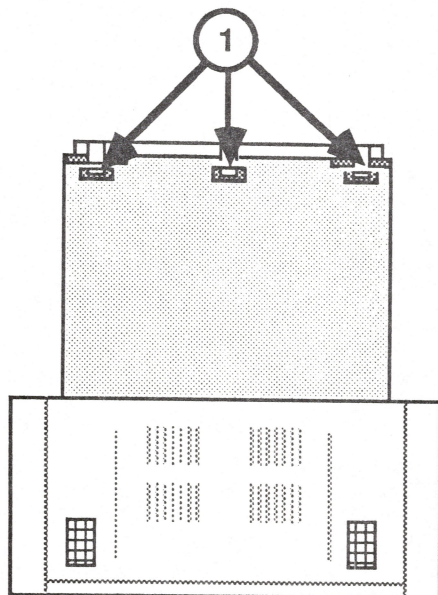

FIGURE 20
4. Fit the rear panel over the three rear control knobs, making sure the plastic "teeth" on the bottom of the panel fit into the openings in the metal chassis (Figure 20, #1).